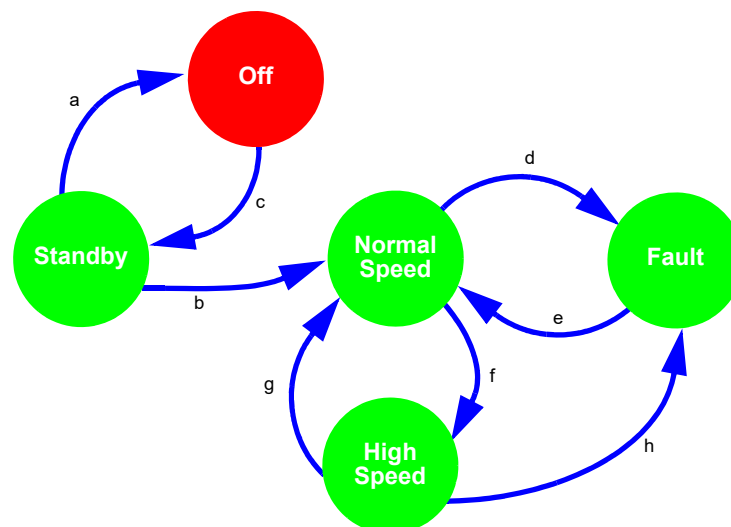

Figure 109: Asynchronous State Machine State Transitions
The Asynchronous State Machine macrocell is one of several macrocells in the Asynchronous State Machine Subsystem, and its specific role is to hold one active state at a time, and to facility user defined state transitions in a fast and power efficient manner. This macrocell is designed to allow the user to create state machines with between 2 to 12 states. When combined with the other macrocells in the ASM subsystem [four Dynamic Memory (DMx_x) macrocells, three Matrix Interface (MIx) macrocells, and one f(1) Computation Macrocell], the user has flexibility to define the available states, the available state transitions, and the input signals (a, b, c ...) that will cause transitions from one state to another state, as shown in the example in Figure 109.